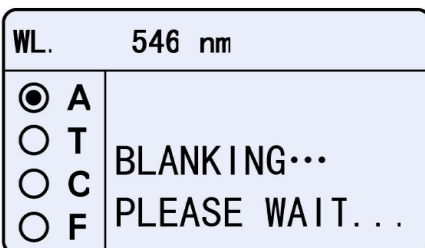

Fig. 4-2
- 3) Pull the reference in the light path, press  to set 100%T (Fig.4-2).